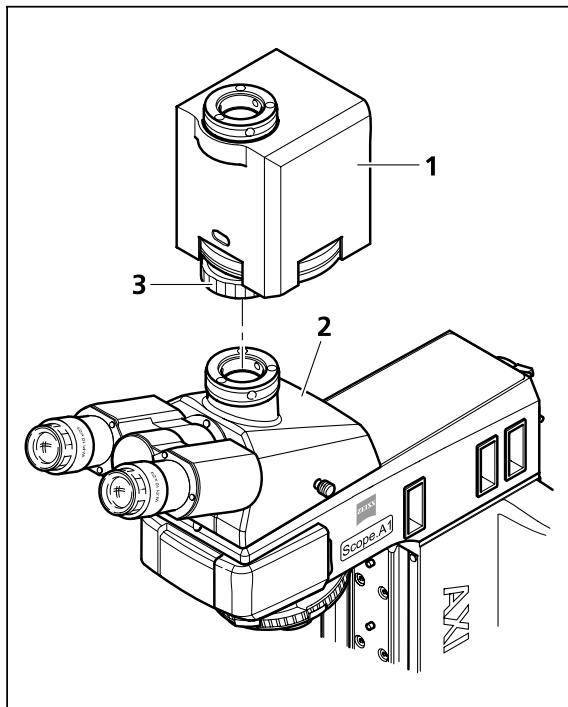

Fig. 3-41 Mounting the magnification changer
- If necessary, remove camera with adapter (or dust protection cover) from the camera port of the photo tube (Fig. 3-41/2).
- Mount the magnification changer (Fig. 3-41/1) onto the camera port, adjust it and fixate it with the retainer nut (Fig. 3-41/3).